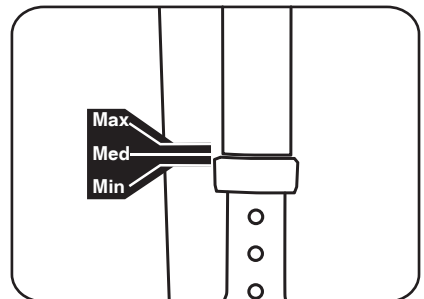

Figure 3: Downhaul until the calibration mark lines up with the bottom of the mast.
d) Downhaul your sail until the calibration mark lines up with the bottom of the mast (figure 3). We suggest using the medium mark most of the time.